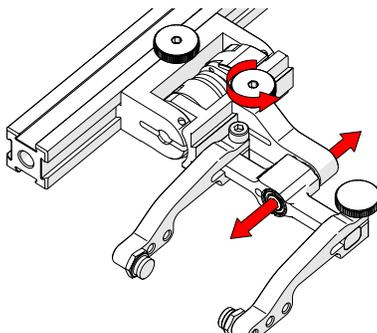

Fig. 101 - Adjust swing arm
3. Use the swing arm knob to position the swing arm (Fig. 101).